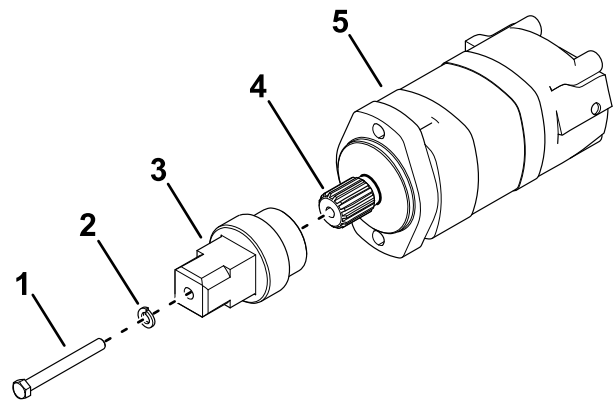

Figure 11
8. Remove the bolt (3/8 x 3-1/2 inches) and washer securing the drive adapter to the hydraulic motor and apply a thin layer of grease to the splines of the motor (Figure 11).
9. Secure the drive adapter using the bolt (3/8 x 3-1/2 inches) and washer (Figure 11).